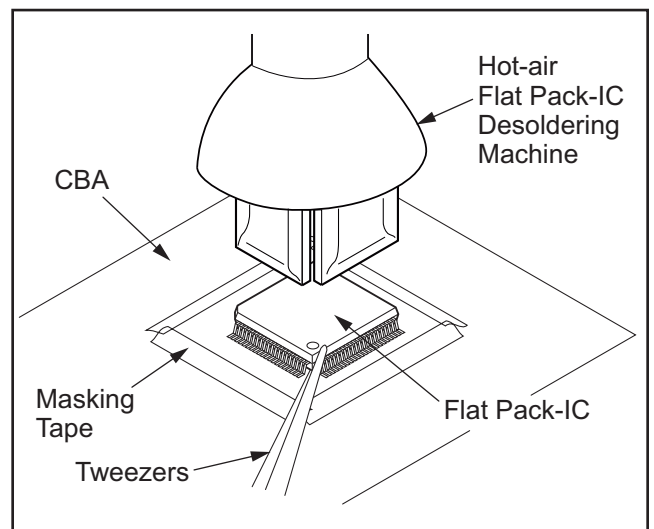

Fig.2
- Do not supply hot air to the chip parts around the flat pack-IC for over 6 seconds because damage to the chip parts may occur. Put masking tape around the flat pack-IC to protect other parts from damage. (Fig. 2)